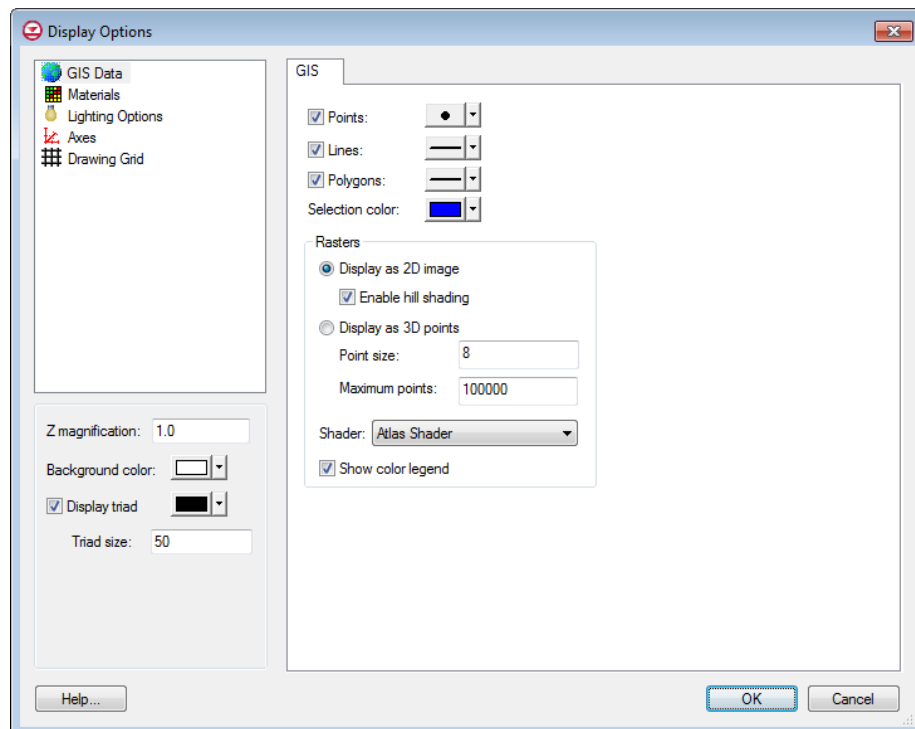

Figure 16 *Display Options dialog*
5. Click **Display Options**  to open the *Display Options* dialog (Figure 16).